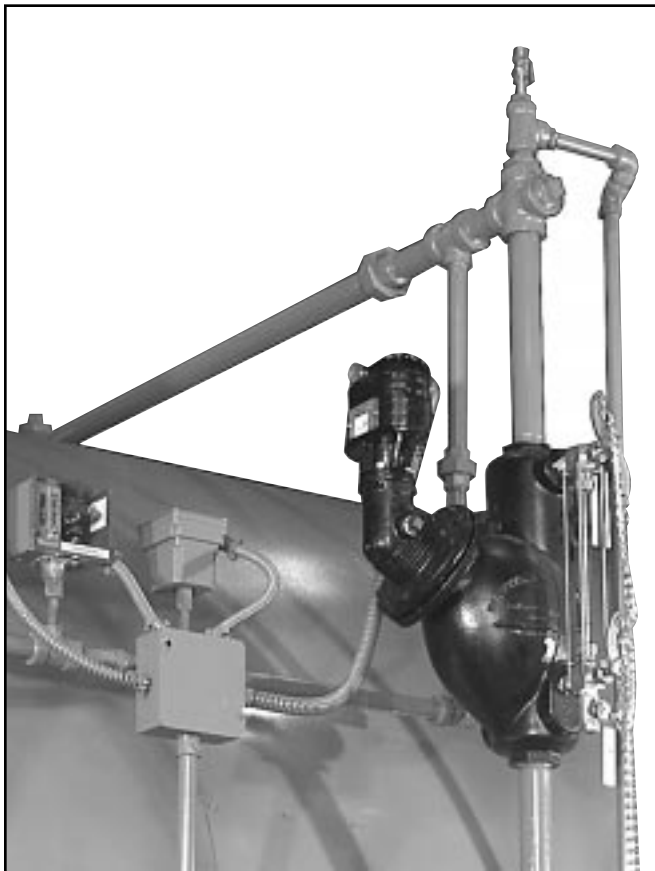

Figure: 1-4 Low Water Cut Off (LWCO)
4. Low-Water Cutoff and Pump Control (Figure 1-4): Float-operated control responds to the water level in the boiler. It performs two distinct functions: